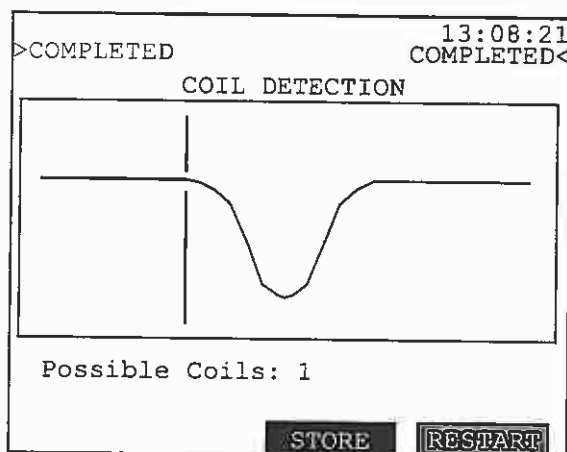

Figure 11 Coil Detection
4. Refer to the graph in Figure 11. The plot measures impedance (y-axis) by frequency (x-axis).
- The number of load coils is displayed at the bottom of the screen. In Figure 11, there is one dip in the graph indicating a load coil.